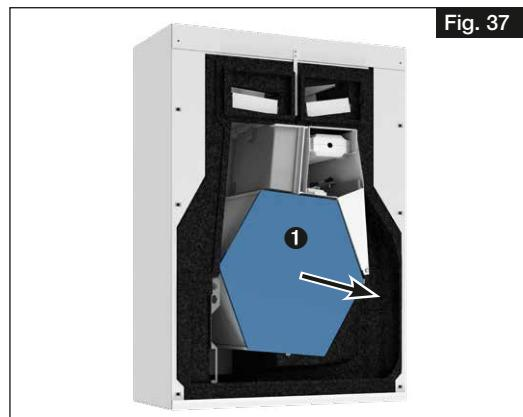

Fig. 37
3. Carefully remove the heat exchanger 1 from the unit (see Fig. 37).